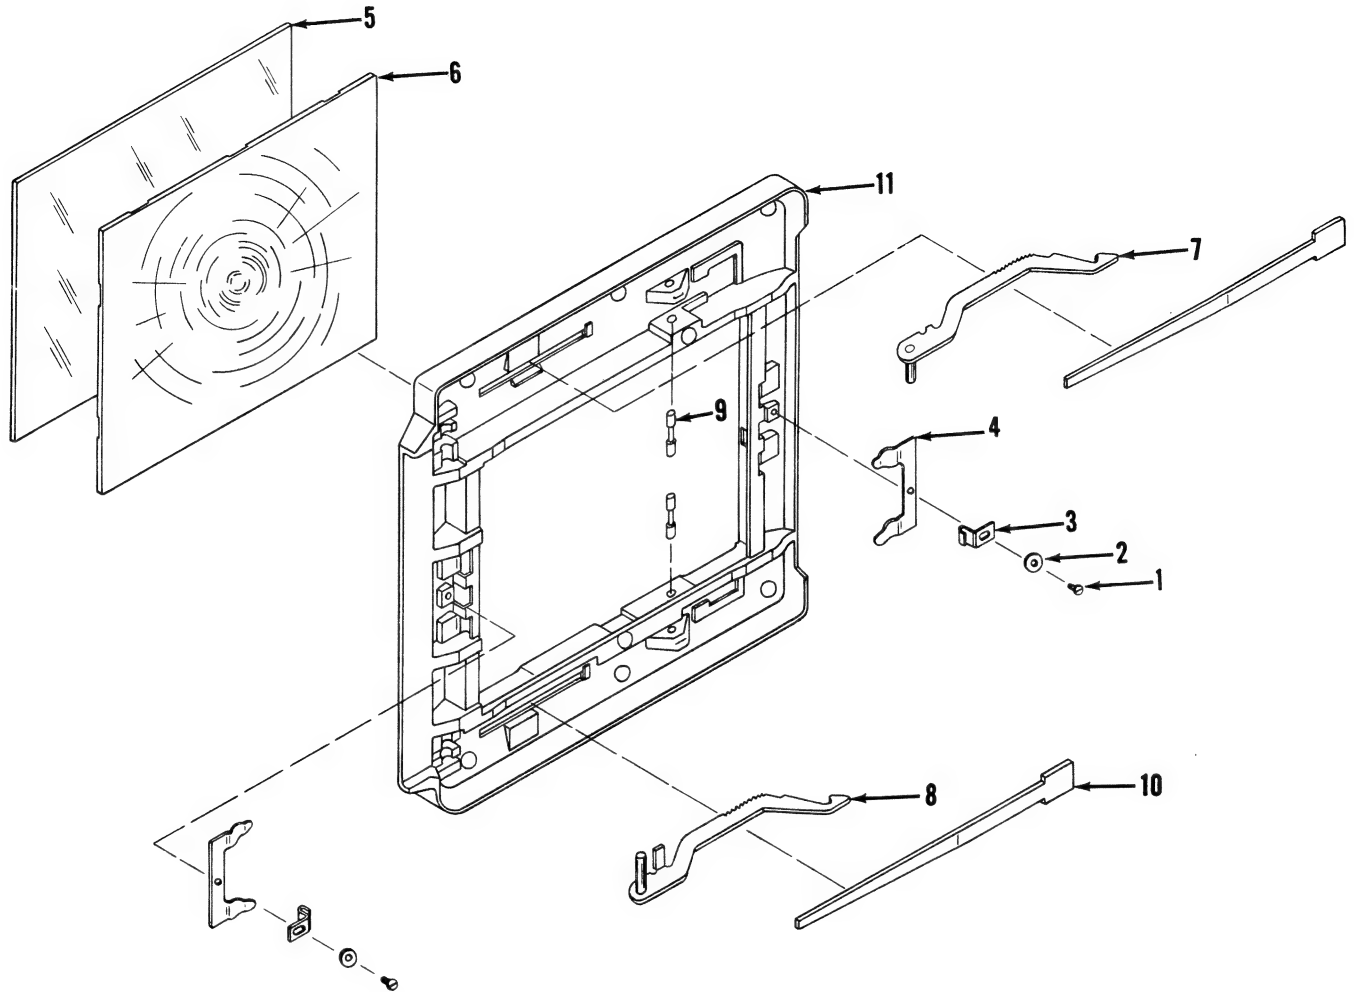

Figure 8. FOCUSING FRAME ASSEMBLY
T. FOCUSING FRAME ASSEMBLY - DISASSEMBLY AND REASSEMBLY (Figure 8)
- Remove machine screw (1), flat washer (2), focusing hood retainer (3) and focusing screen retainer (4) on two sides.
- Remove ground glass focusing screen (5) and Ektalite screen (6).
- Remove arm assembly (7) or (8) by lifting upward on hook end of arm and pulling straight backward.
- If necessary, remove spring pin (9) and arm assembly spring (10) by depressing spring (releasing spring tension on shaft of pin) and driving pin towards large opening in focusing frame (11). Repeat same procedure on opposite side.
- Wash ground glass focusing screen (5) and Ektalite screen (6) with soap and water. Rinse thoroughly and dry.